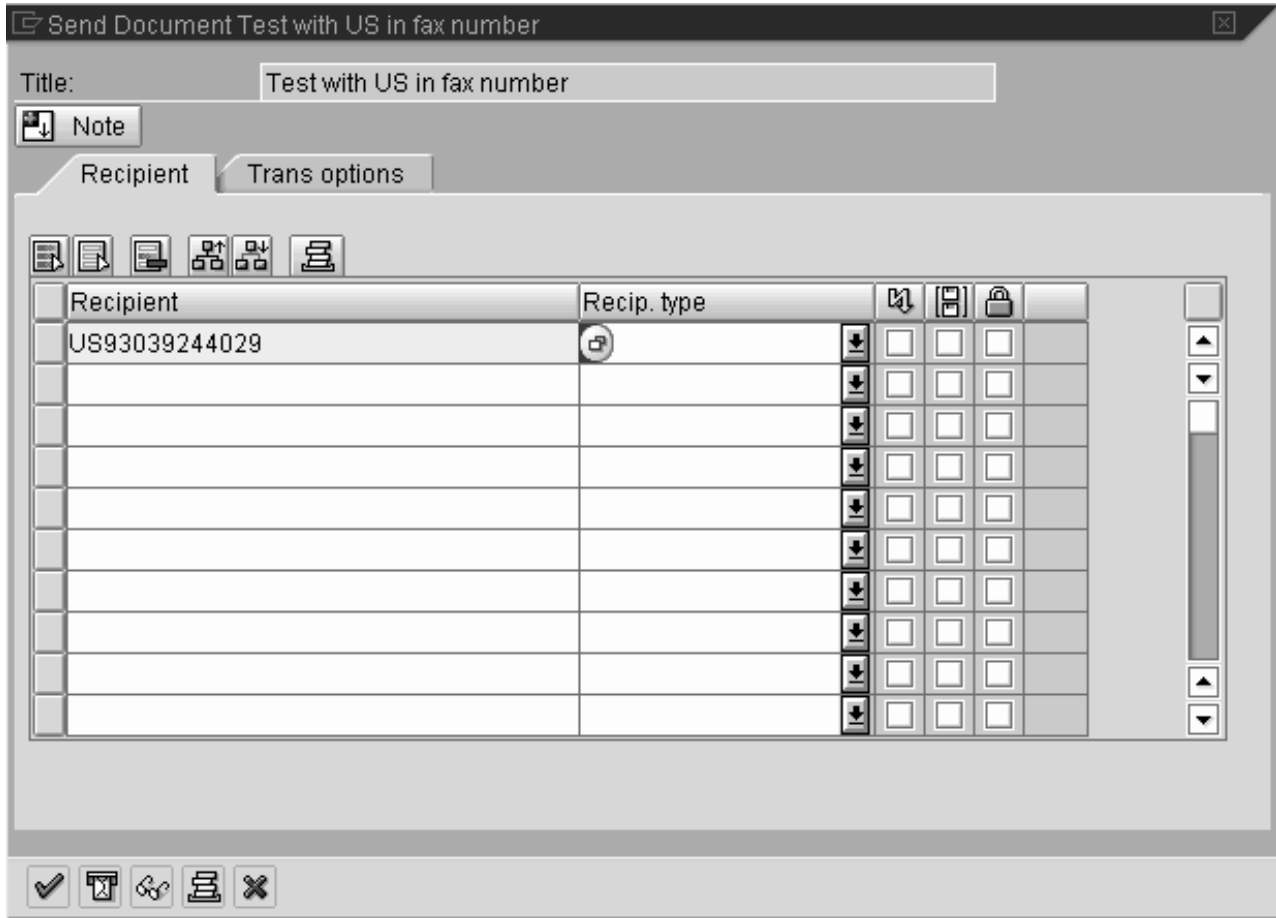

Figure 48. Send Document window
8. From the **Send Document** pop-up menu (Figure 48), you can specify a single recipient for a fax or create a distribution list to use to send the fax. Remember to start with the country code for each recipient. For example, specify us9303123456 and then select either the **Send** icon (envelope sticking out of a mail slot on far left) at the bottom of the window.